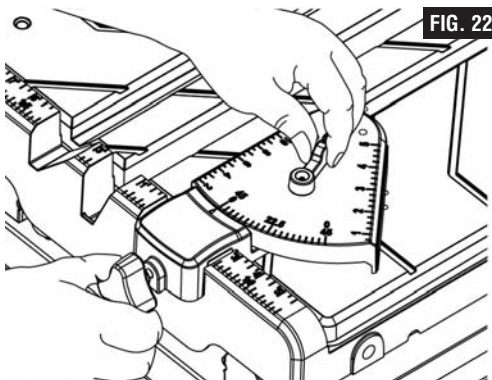

FIG. 22
2. Adjust the universal guide so that the desired angle (0°, 22.5°, 45°) aligns with the indicator arrow (Fig. 22). Tighten the lever to lock the universal guide at the desired angle.